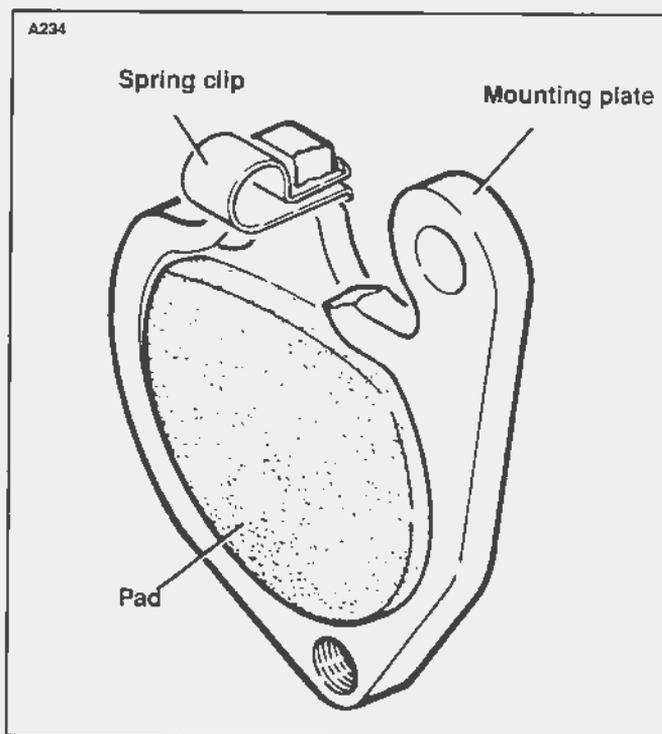

Figure 2-51. Spring Clip Installation
4. Position the gap of the retaining wire (13) at the top of the caliper and compress the retaining wire into the piston bore. Push the retaining wire firmly against the piston dust boot.
6. Push the threaded bushing (4) into the pin boot (5) and through the bushing bore in the mounting lug. Keep pushing until the free end of the pin boot seats in the grooved shoulder next to the hexagonal head of the threaded bushing.
7. Lay the mounting plate (7) down on a firm flat surface. The upper mounting bolt hole must be positioned at the upper right.
8. See Figure 2-51. Install the spring clip at the top of mounting plate as shown.